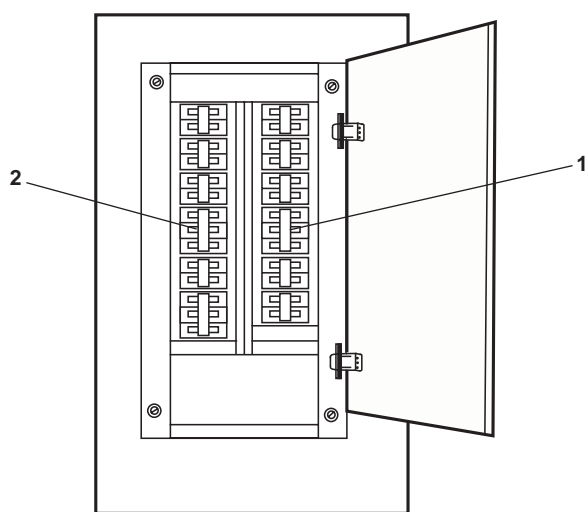

Figure 6. 120V Distribution Panel No. 3
- a. 01 & 02 LEVEL REHEATER FUSE BOX No. 1. (figure 6, item 1).
- b. MAIN DECK REHEATER FUSE BOX No. 3. (figure 6, item 2).